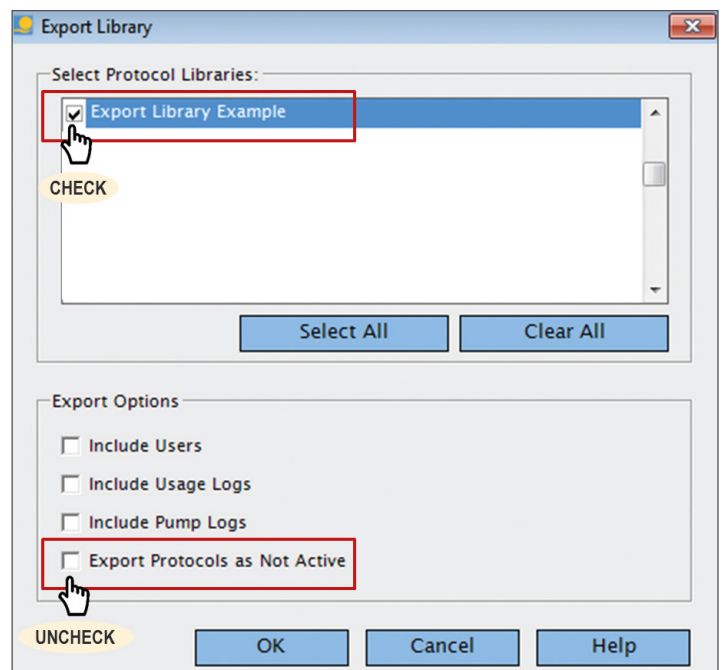

Fig. 1
2. In the Export Library dialog box (fig.1), click to select the Protocol Libraries you want to export.